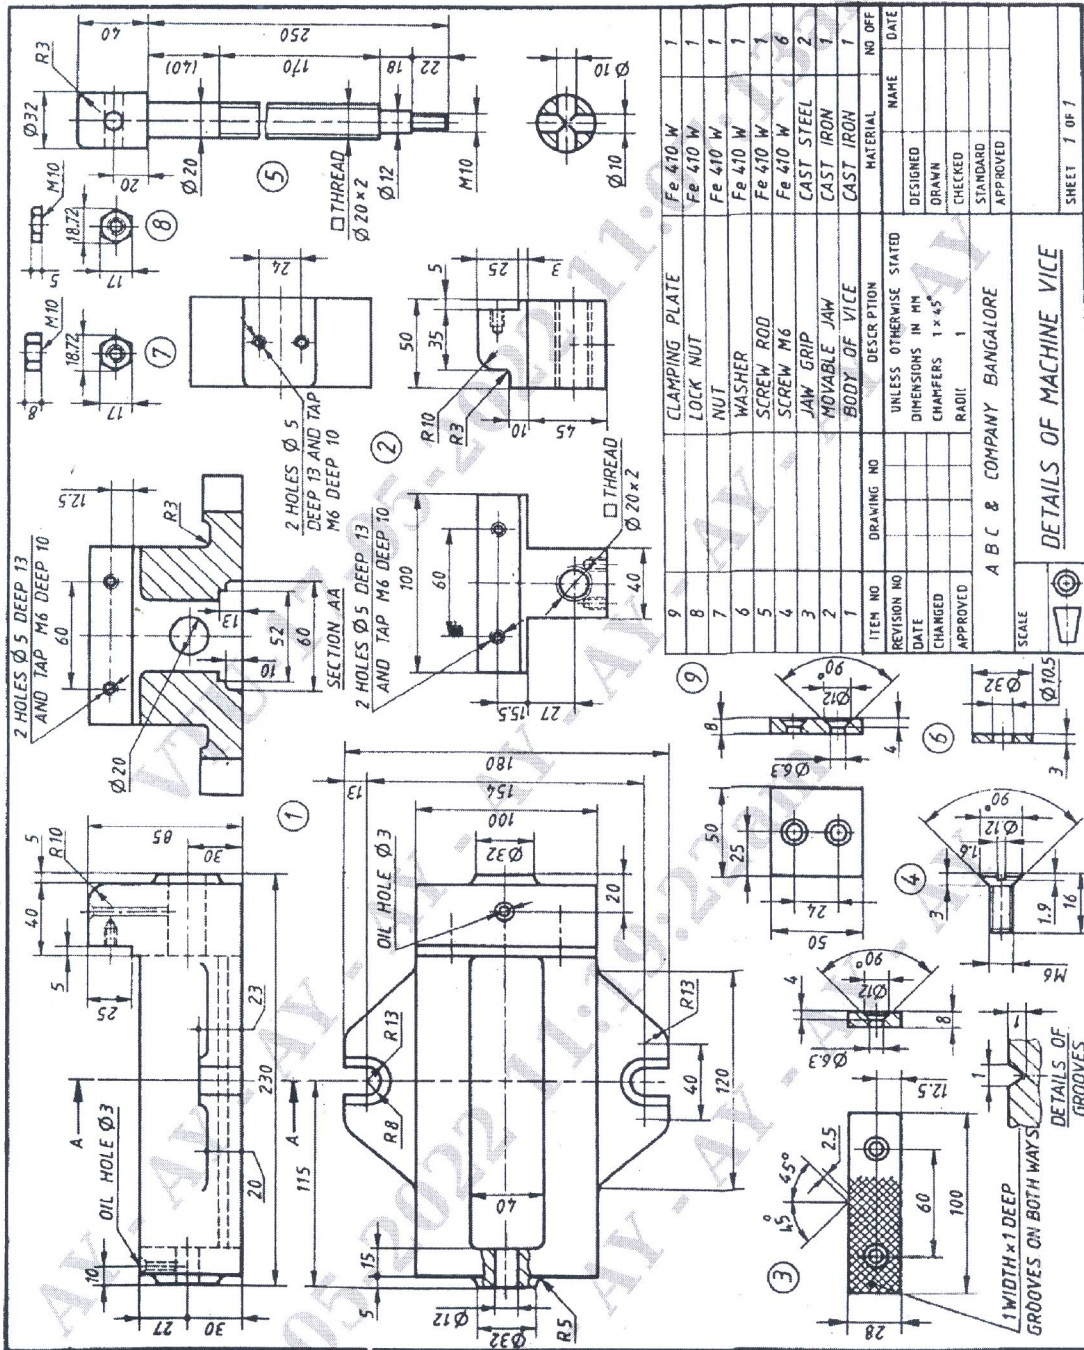

Figure 2 : Details of Machine Vice
5. Figure 2 shows the details of a Machine vice. Assemble the parts of the Machine vice and show the following views.